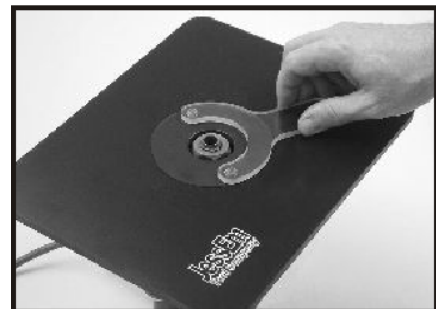

Figure 6
1. Place the insert ring into the center hole of the Lift's top plate (Fig. 6).